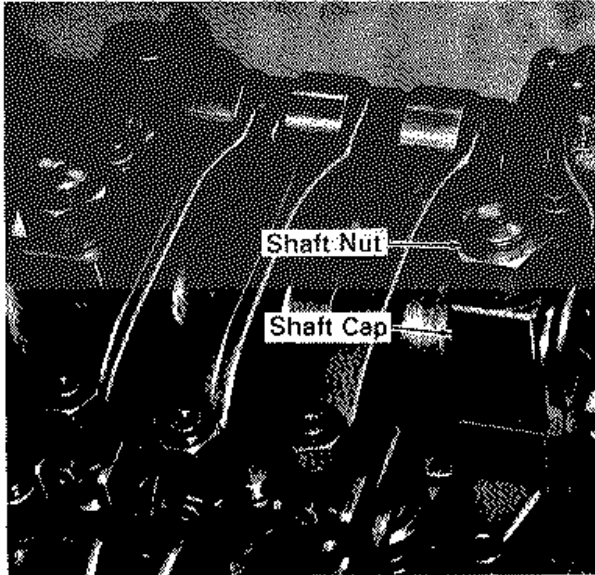

Fig. 5-2 - Rocker Arm Assembly Removal
11. Remove the rocker arm shaft nuts, washers, and the rocker arm shaft caps, Fig. 5-2.